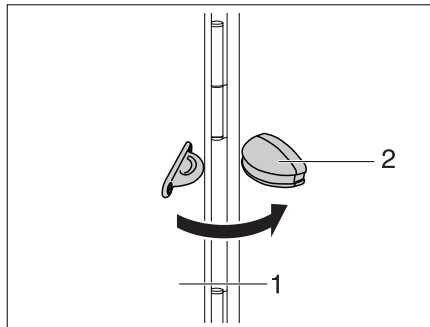

Fig. 53 Holding device external flap
- Open the external flap (Fig. 53,1) and swing it towards the vehicle side.
- Press the external flap into the holding device (Fig. 53,2).
- Pull the external flap (Fig. 53,1) with a firm tug out of the holding device (Fig. 53,2).